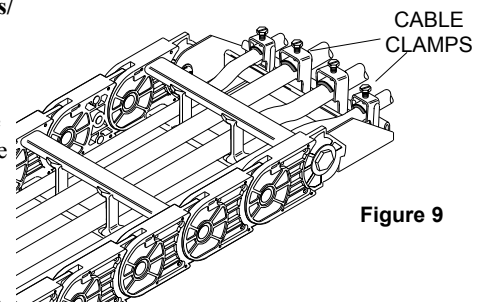

Figure 9
6. Clamp all cables/hoses firmly at both ends of the chain (Fig. 9). To avoid damage to the inner structure of the cables/hoses, clamp over a wide area of the outer jacket. Always leave slack between clamps and termination points to avoid stress on cables/hoses.